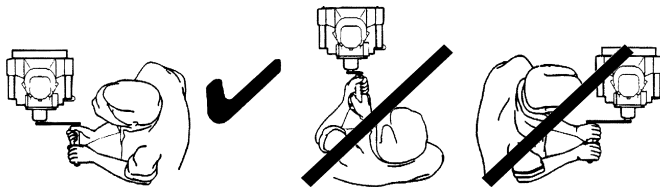

Figure 19. Starting Handle Operating Position
4. When turning the starting handle, observe the correct operating position (Figure 19).